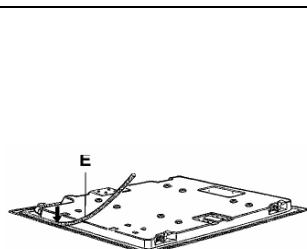

FIG. 11
- Overturn the hot plate and correctly position seal "E" (fig. 11) under the edge of the hot plate itself, so that the outer side of the seal perfectly matches the outer edge of the hot plate. The ends of the strips must fit together without overlapping.